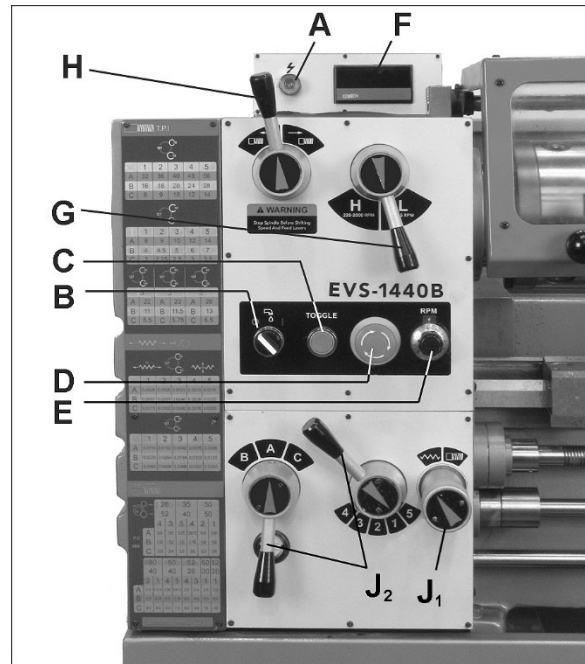

Figure 10-4
To obtain various feed settings and thread pitches, the knob and two levers (J, Figure 10-4) are used conjunctively. Position the levers according to the Feed and Thread Chart on front of end cover. An identical chart is shown in *sect. 13.0*.
1. Move feed direction lever (H, Figure 10-4) for right-hand or left-hand threads.
2. Set spindle to low speed range (G/E, Figure 10-4). Use lowest speed possible when threading.
3. Turn knob (J₁, Figure 10-4) clockwise to disengage feed rod.
4. Select desired thread using thread pitch levers (J₂, Figure 10-4), referring to charts on end cover.